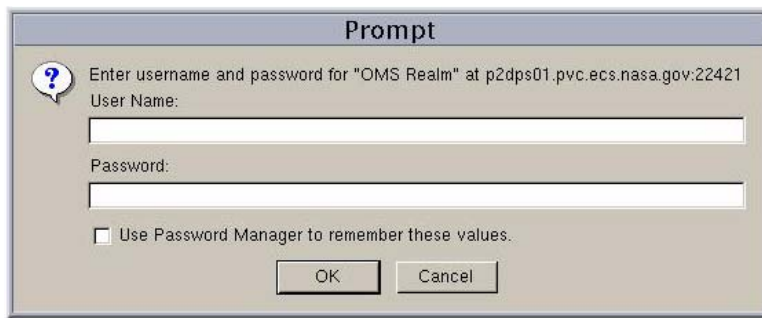

Figure 15.4-1. Security Login Prompt
- The **security login Prompt** (Figure 15.4-1) dialog box displays.